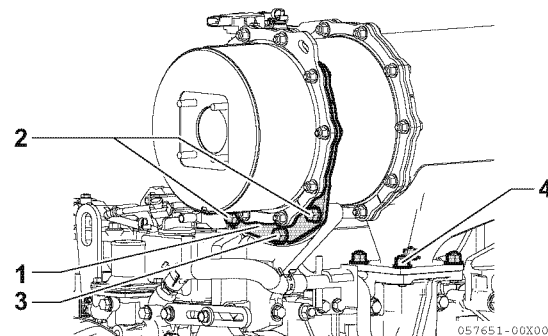

Figure 13-26
- Remove the fixing bolts (2 pcs.) (**Figure 13-26, (2)**) and flange nut (**Figure 13-26, (3)**) from the DPF stay (**Figure 13-26, (1)**) on the silencer (or outlet flange) side.
- Finally, remove the exhaust manifold flange nuts (4 pcs.) (**Figure 13-26, (4)**), and remove the DPF unit together with the gasket.